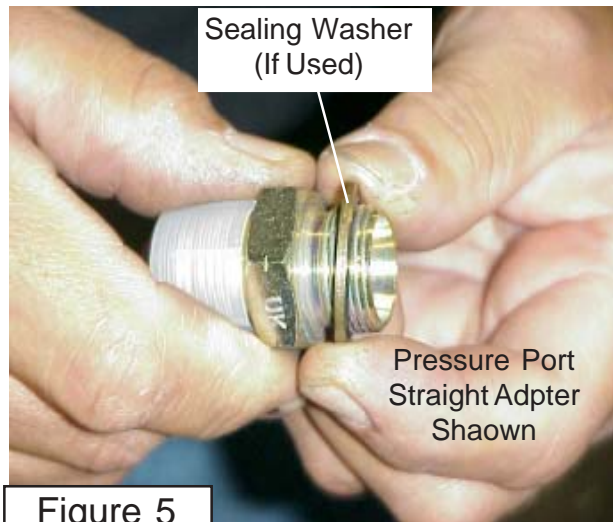

Figure 5
2. Install Fitting into Stack Valve. The Fittings are shown in figure 2, The straight adapter fitting will install in to stack valve for the pressure port and the return port. The pressure port fitting is smaller than the return port fittings. Make certain to install any sealing washers or O-rings that are included with removed plugs or new fittings (See Figure 5). The 90 degree swivel elbow will be installed onto the straight adapters. The small 90 degree elbow is for the load sense port and will install directly into the stack valve. DO NOT unplug any of these fittings until you are ready to install the hoses. This will keep any contamination from getting into them. (See Figure 5 & 6)